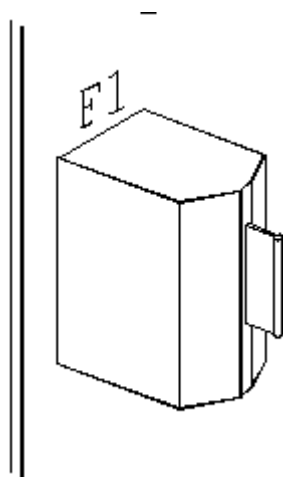

Figure 5-9. AC Fuse Holder on the GC Controller Terminal Board, Lower Left Corner
Fuse Location - Inside small black holder by lower left corner of the GC Controller TB, by label "F1" (see Figure 5-9). Spare fuses are in a small box attached to the GC Controller.
- Function Code Common is at these terminals: GC Controller TB, J19, #5 and the Analyzer TB4, #16 (see Figure 5-9).